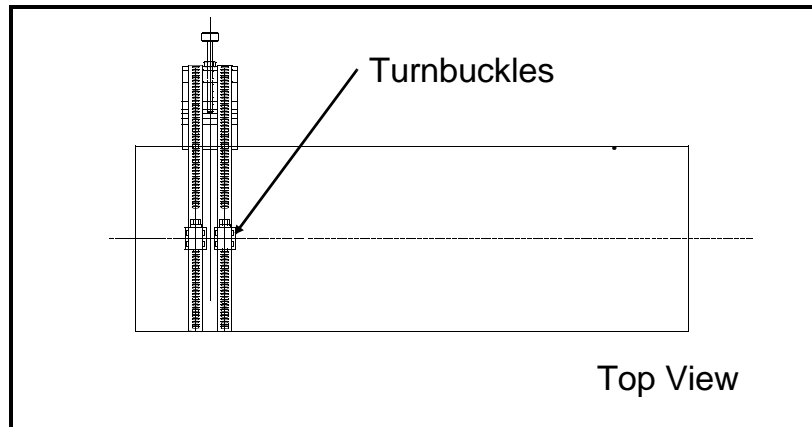

Figure 1-13: Positioning Turnbuckles 1/2 Pipe Diameter from Block
7. Center one of the blocks over one of the crossmarks on the pipe. Align the block so that the pressure bolt is over the center of the mark. Secure the block by wrapping the two straps around the block and pipe and tightening them. Make sure the turnbuckles are at least 1/2 pipe diameter away from the block, as shown in Figure 1-13 below.